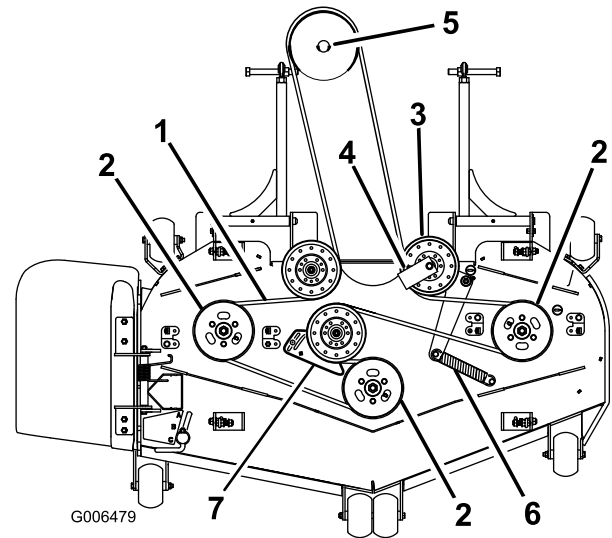
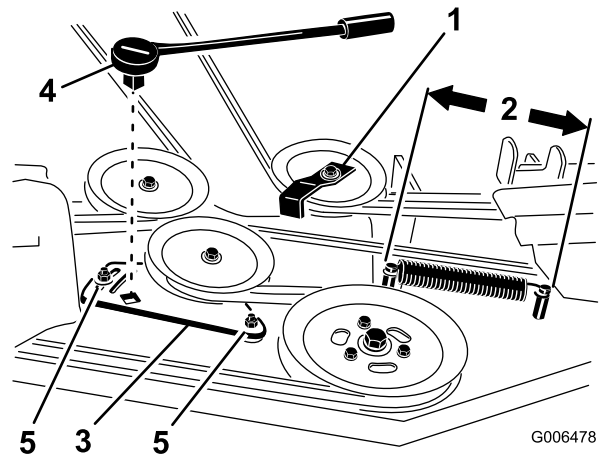

Figure 2
Figure 4
6. Remove the belt guide on the spring loaded idler pulley shown in Figure 2 and Figure 4.
8. Install the new belt around the mower pulleys and the gearbox pulley under the engine (Figure 2).
9. Install the belt guide on the spring loaded idler at a 45 degree angle as shown in Figure 2 and Figure 4. Torque the bolt to 27 to 33 ft-lb (37 to 45 N-m).
10. Install the idler spring to the two posts (Figure 2 and Figure 4).
4. Loosen the idler plate bolts holding the idler plate (Figure 4).
4. Measure the spring length (Figure 4). If the spring length is between 10 and 10-1/4 inches (25.4 and 26.0 cm), from post to post, no adjustment is needed.
5. Loosen the bolts holding the idler plate (Figure 4).
6. Insert a ratchet or breaker bar into the square hole in the idler plate to adjust the tension (Figure 4).
7. Rotate the ratchet or breaker bar to move the idler plate until the idler spring is between 10 and 10-1/4 inches (25.4 and 26.0 cm) from post to post as shown in Figure 4.
8. While holding the belt tension and spring length, tighten the idler plate bolts that secure the idler plate (Figure 4).